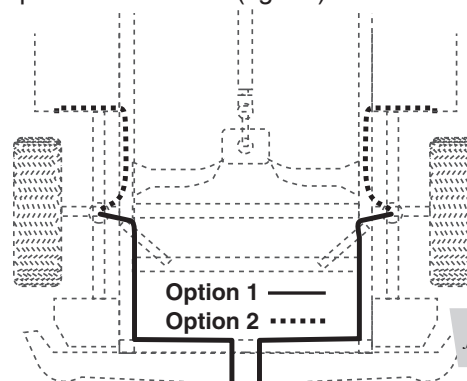

fig. 11
- Route the air line along the frame to the air fitting on the air spring (fig. 11). Keep AT LEAST 6" of clearance between the air line and heat sources, such as the exhaust pipes, muffler, or catalytic converter. Avoid sharp bends and edges. Use the plastic tie straps to secure the air line to fixed, non-moving points along the chassis. Be sure that the tie straps are tight, but do not pinch the air line. Leave at least 2" of slack to allow for any movement that might pull on the air line (fig. 11).